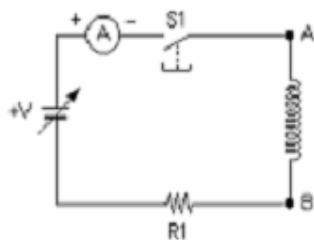
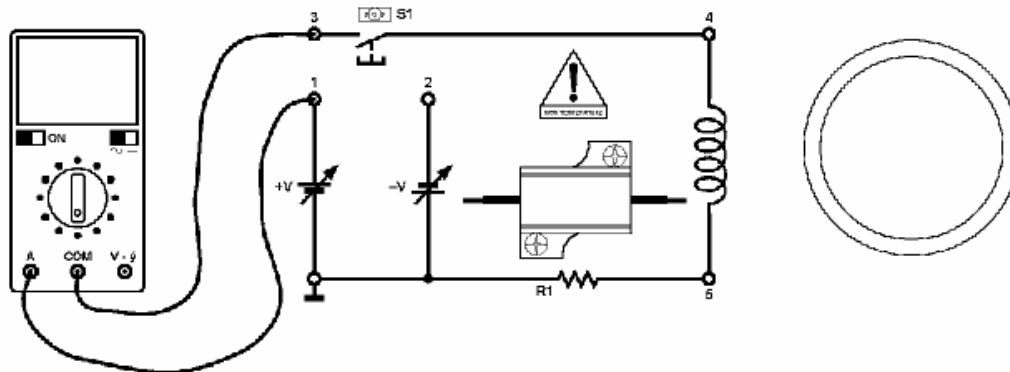

Fig 2.10: Electrical diagram of positive
Fig 2.12: Topographical diagram of positive voltage for solenoid conductor
1. Connect a multimeter, set as ammeter, between jack 1 and jack 3 (Fig.2.10 and Fig.2.12);